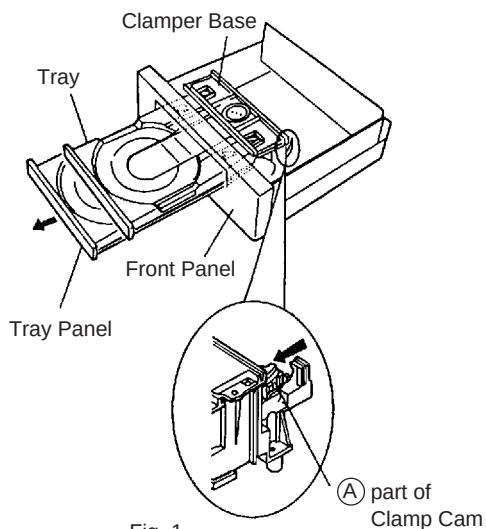

Fig. 1
■ COMPACT DISC PLAYER [PD-R9 (S)]
1. Tray (Fig.1)